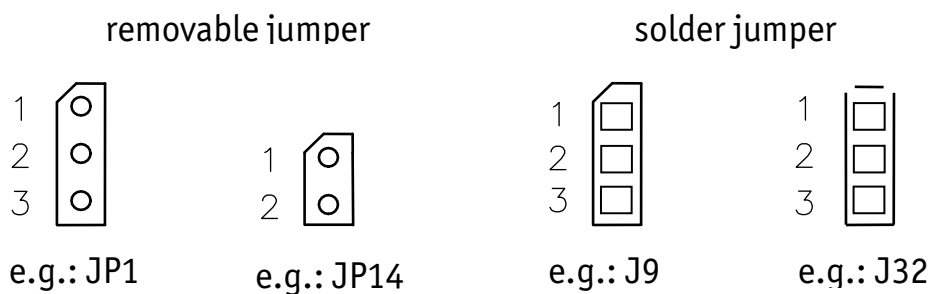
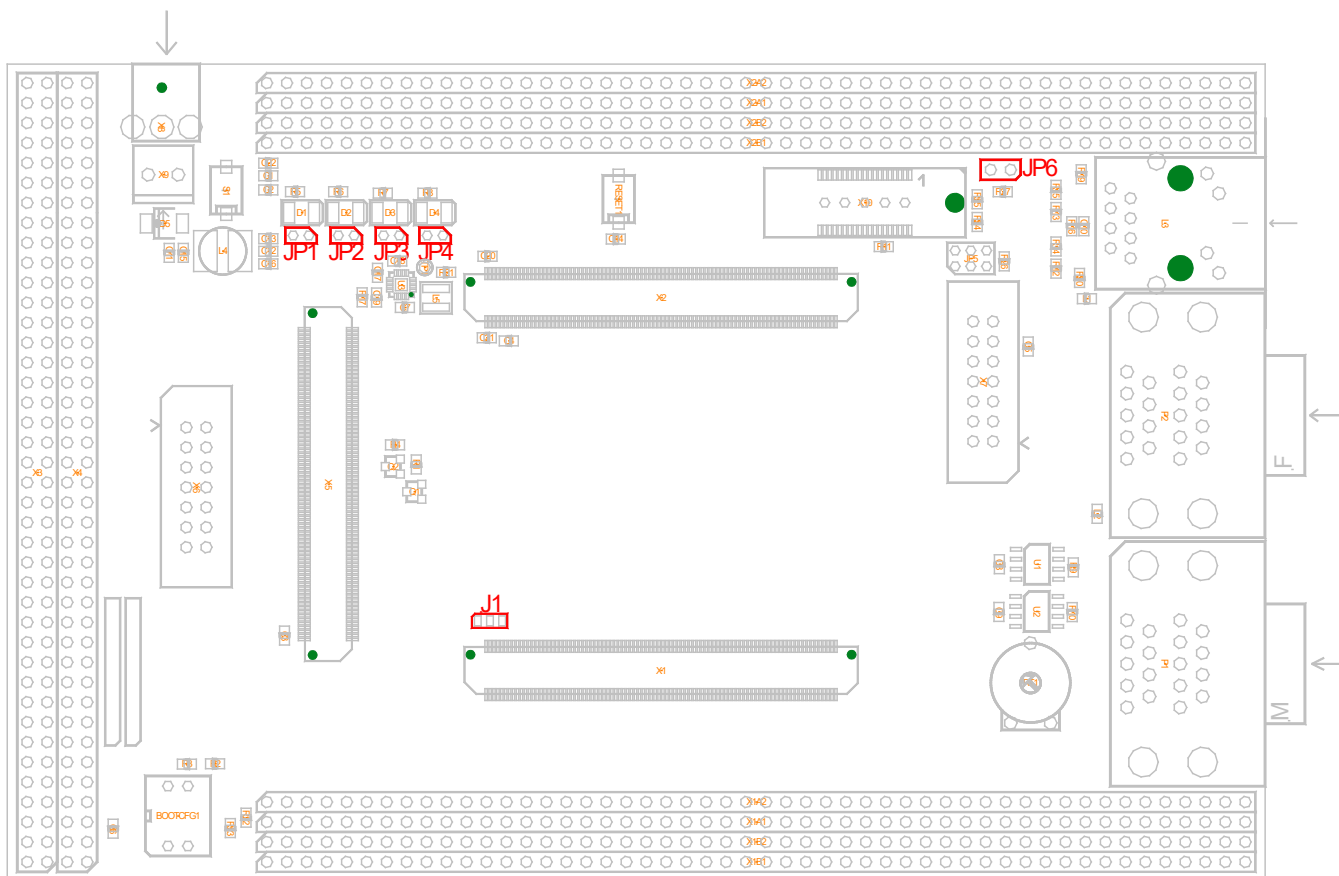

Figure 10: Typical Jumper Numbering Scheme
Figure 11: phyCORE Carrier Board Jumper Locations (top view)
The phyCORE Carrier Board comes pre-configured with removable jumpers (JP) and solder jumpers (J). The jumpers allow the user flexibility of configuring a limited number of features for development constraint purposes. Table 21 below lists the jumpers, their default positions, and their functions in each position. Figure 10 depicts the jumper pad numbering scheme for reference when altering jumper settings on the development board. Figure 11 provides a detailed view of the phyCORE Carrier Board jumpers and their default settings. In these diagrams a beveled edge indicates the location of pin 1.